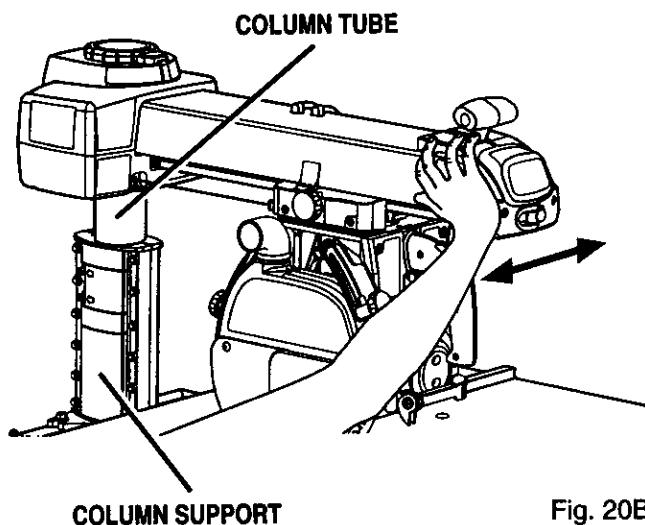

Fig. 20B
- **Rotation check:** To check the rotation, hold the front of the arm with one hand and grasp the top of the column support with the other. Press the arm to the side. If there is play between the column support and the column tube, it needs to be adjusted. See *Figure 20B*.